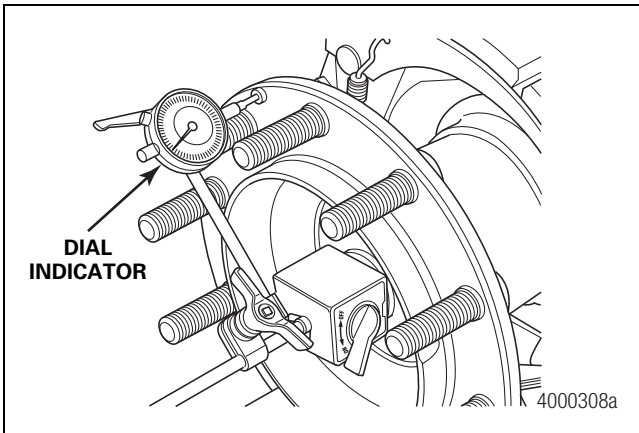

Figure 3.11
4. Remove the wheel and drum. Attach the magnetic base of a dial indicator onto the end of the spindle. Figure 3.11. Touch the indicator stem perpendicular against the unitized wheel-end mounting face.